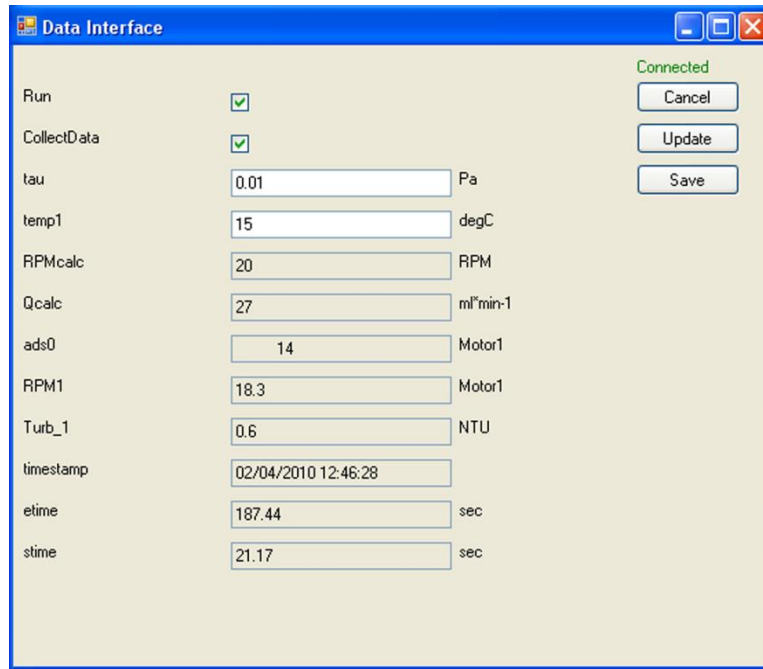

Figure 2.4.1 – W2W (similar for ComScript) erosion profile Data Interface when ready to start experiment. Select “Update” to initiate experiment.
- 2.4.6 Start experiment.** In the DI window select “Edit”. Make sure $\tau = 0.01$, and the $temp1$ = measured water temp in degrees Celsius ($^{\circ}C$). (Note: for 2 core system there is both $temp1$ and $temp2$, and the program uses the average of the two to determine settings to achieve set shear stress (τ)). Check “Run” and “Data Collect” boxes, then select “Update” button. TURN on PUMP now! You have now initiated the experiment. The motors should start spinning slowly and the pump should start turning slowly. Verify this is happening. Also note the time of the start of the experiment. The data interface window will show the time stamp, the total elapsed time for the experiment (etime) in seconds, and the total elapsed step time (stime) in seconds. These times are helpful in determining step changes and noting times of observed events. Optional: hit the save button to write the data interface parameters to config.xml file (See fig 2.4.1).